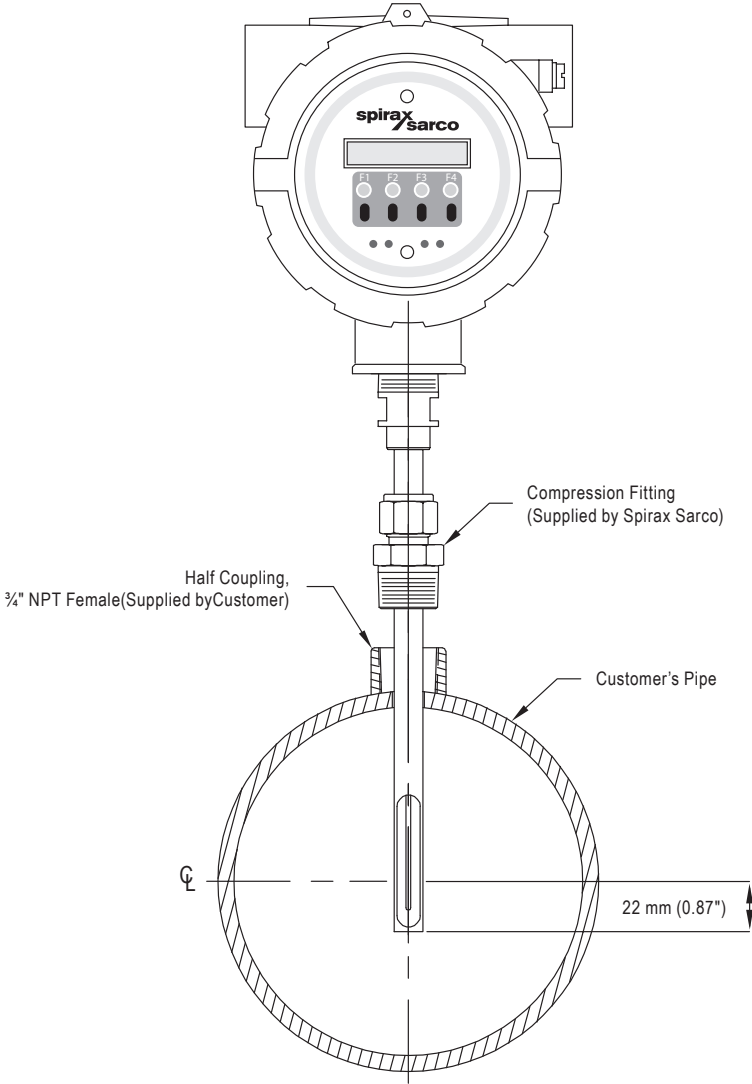

Fig. 4 - Cross Section of Insertion Sensor Depth in Pipe
- When installing in a 50 mm (2") pipe or larger, install the end of the probe 22 mm (0.87") past the center line of the pipe and tighten the compression fitting nut (refer to Figure 4 on page 11).